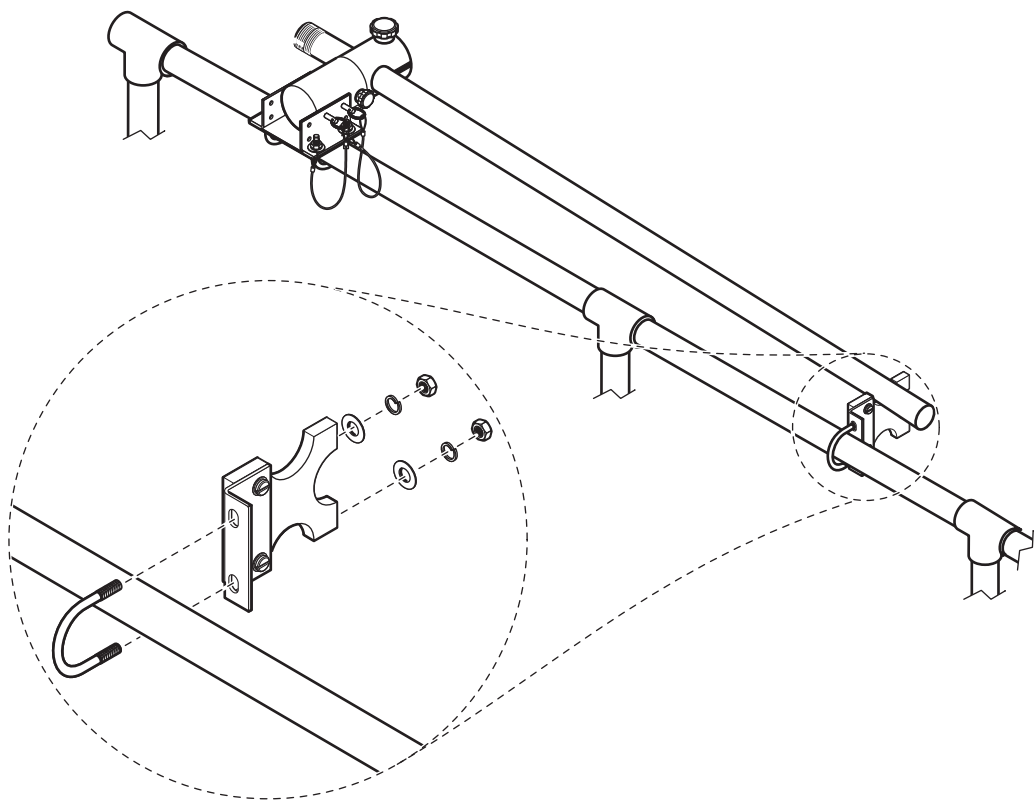

Figure 6: Installing the immersed pipe support
4. Install the immersed pipe support (Figure 6: on page 7) and place the immersed pipe on the immersed pipe support.